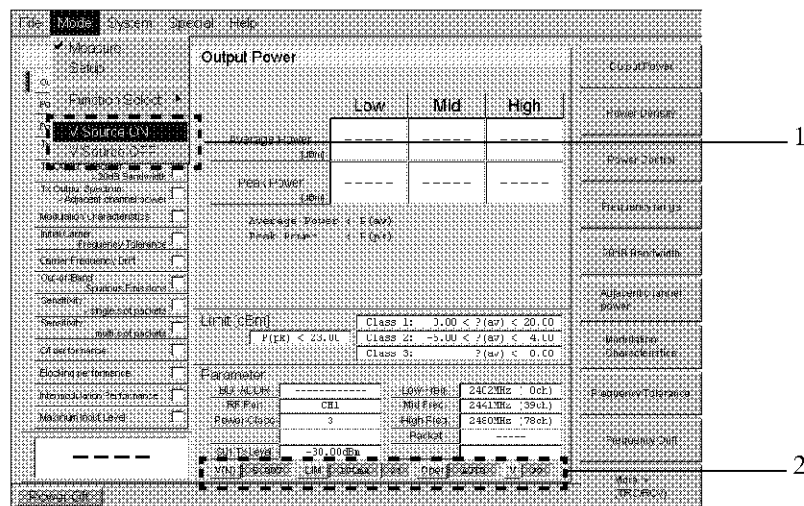
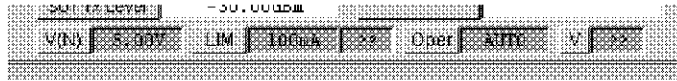

Figure 2-24 Display of Information on the Operation Menu and DC Power Supply on the Measurement Screen
Figure 2-25 Display of Information on DC Power Supply (2303 not detected)
- Manual Turns the output ON and OFF arbitrarily (Refer to 1 in Figure 2-24.)
Information on the DC power supply and output, etc. settings are displayed in frame 2 shown in Figure 2-24. If 2303 cannot be detected, the display in the box changes to gray and the DC power supply setting function is unavailable (Refer to Figure 2-25).